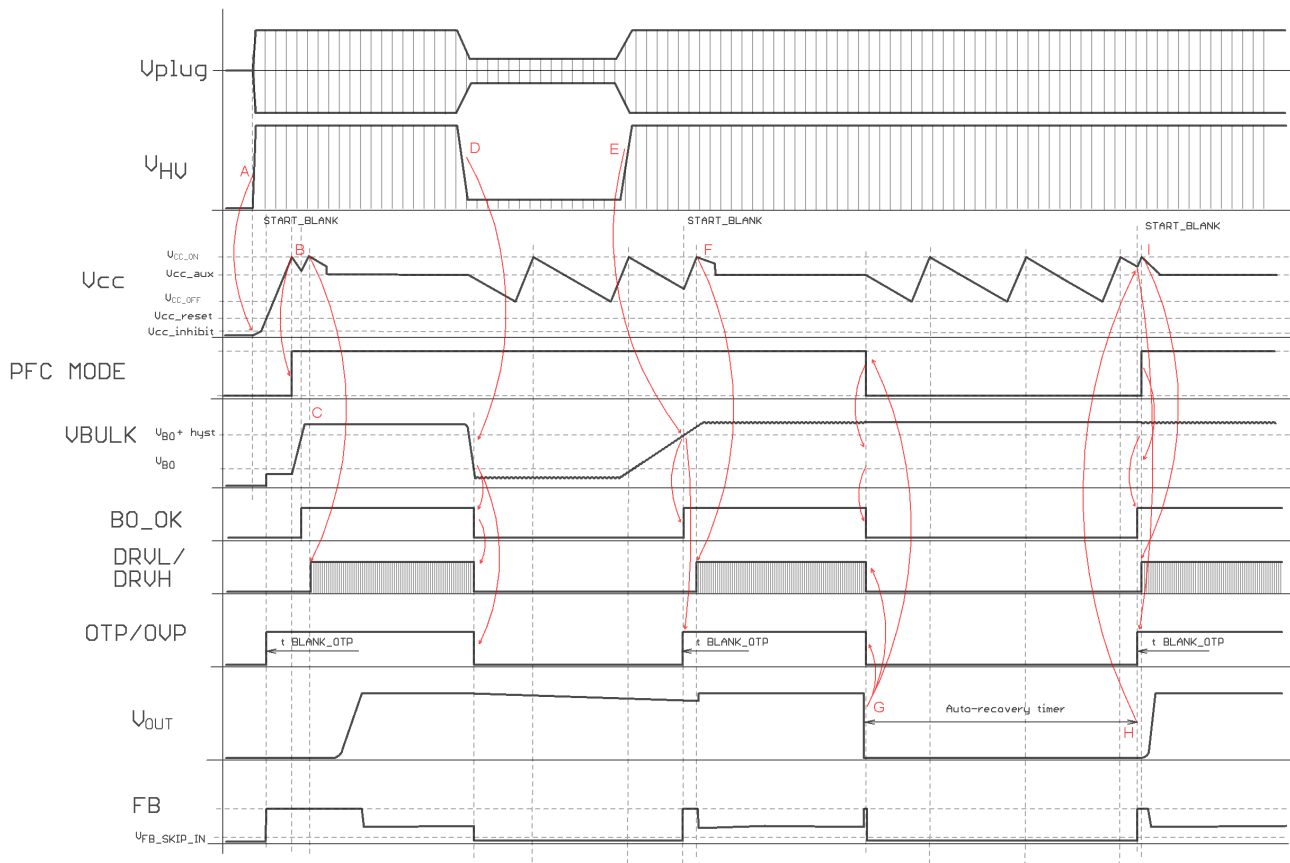

Figure 86. Application Start, Brown-out Off and Restart, Output Short Fault with Auto-recovery Restart
*Application start, Brown-out off and restart, output short fault with auto-recovery restart* – Figure 86